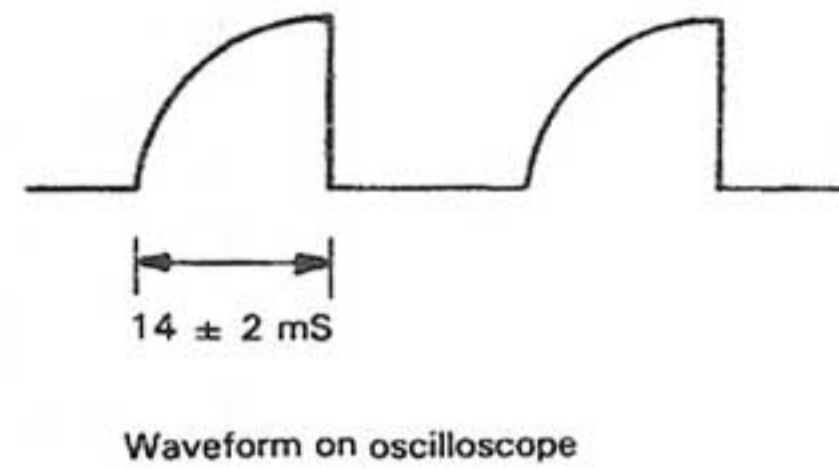

Fig. 23
2. At 33-1/3rpm, adjust VR1 (22 kΩ) on the motor P.C. board so that a waveform is obtained as shown in Fig. 23.